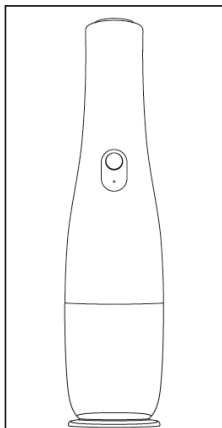

Fig. 5
6. For storage, stand the appliance on the cap «1», which can also be used as a stand (see Fig. 5).